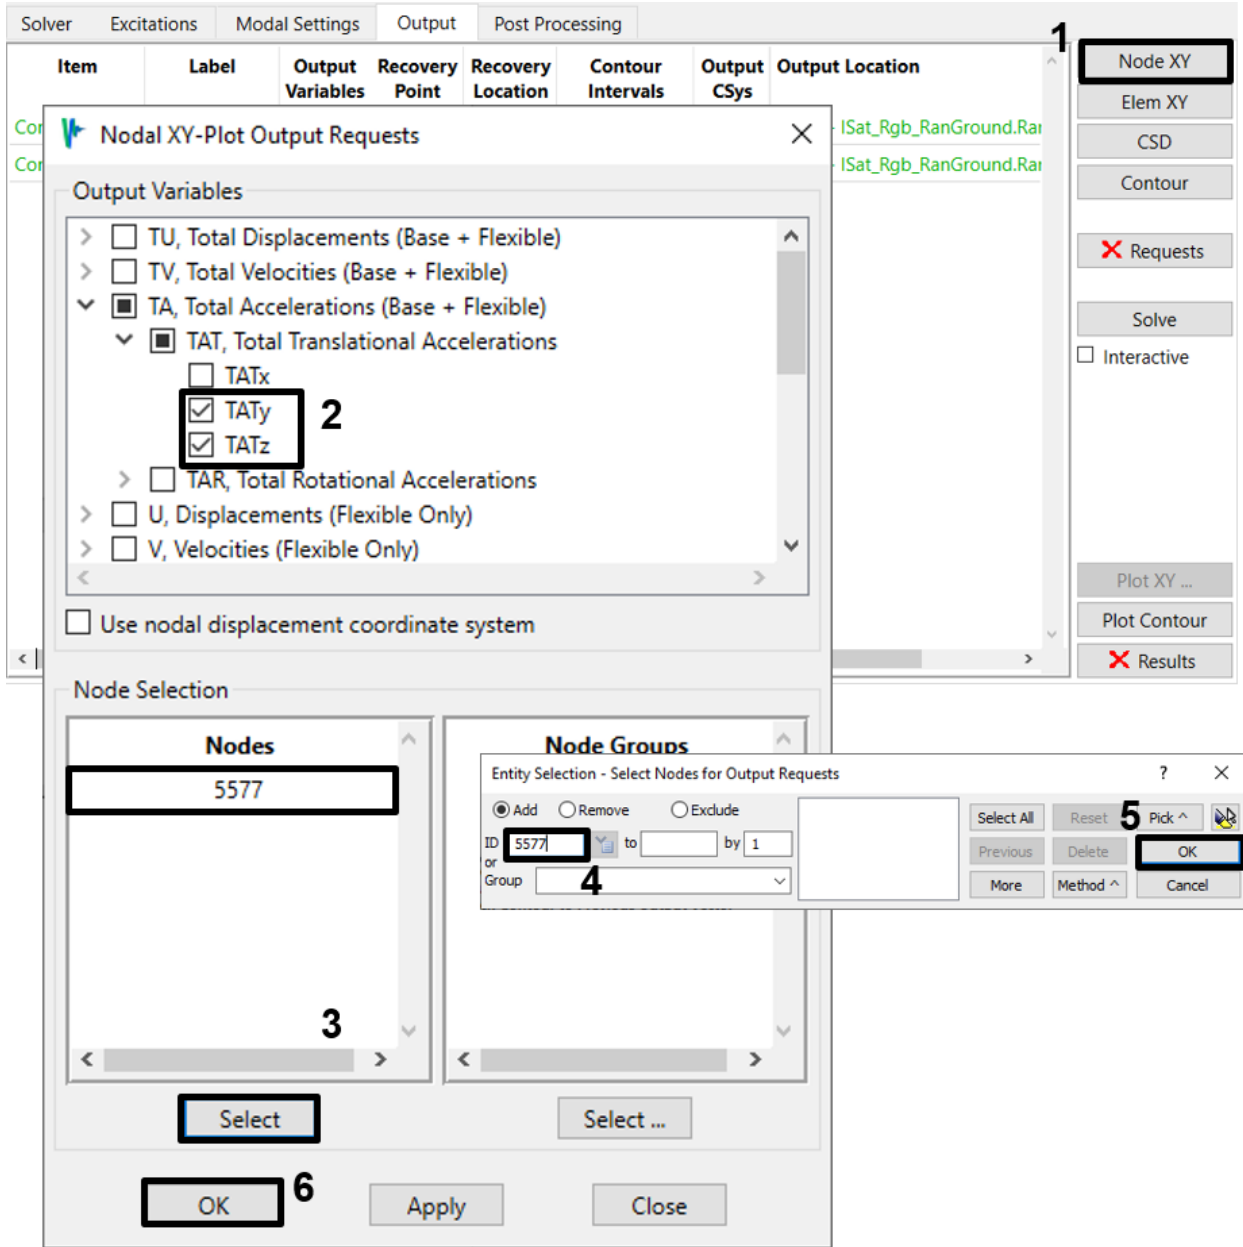
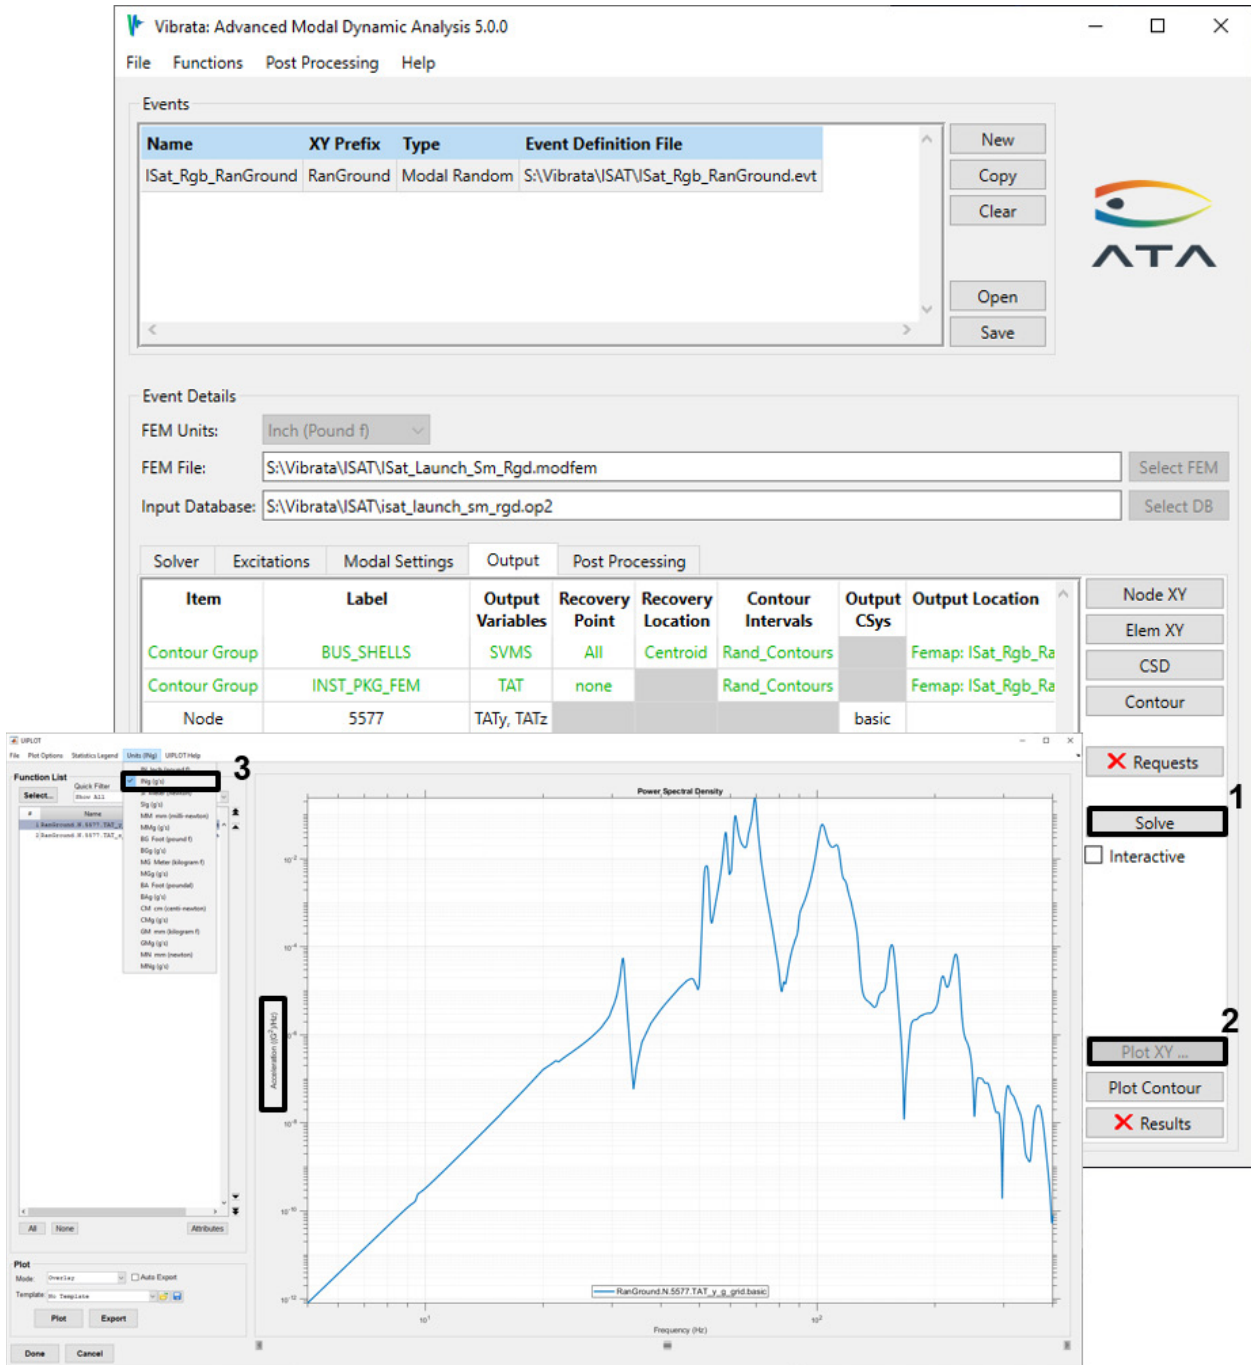

Figure 4-48. Request Y- and Z-direction total accelerations for node 5577.
Figure 4-49. Node 5577 total Y-acceleration in g^2/Hz units, rigid base.
8. The highest RMS acceleration occurs at node 5577 for Y-acceleration. That node also shares the highest Z-acceleration, although it is lower than the Y-direction. You would like to know the frequencies at which the largest responses occur, so create a Node XY output request for that node and those directions (Figure 4-48). (You can request X-acceleration if you wish, but it will clutter the plotting displays.) Solve this new request and plot the Y-acceleration function (Figure 4-49). Set the display units to "IN (G's)" to see the responses in g^2/Hz rather than $(in/s^2)^2/Hz$.